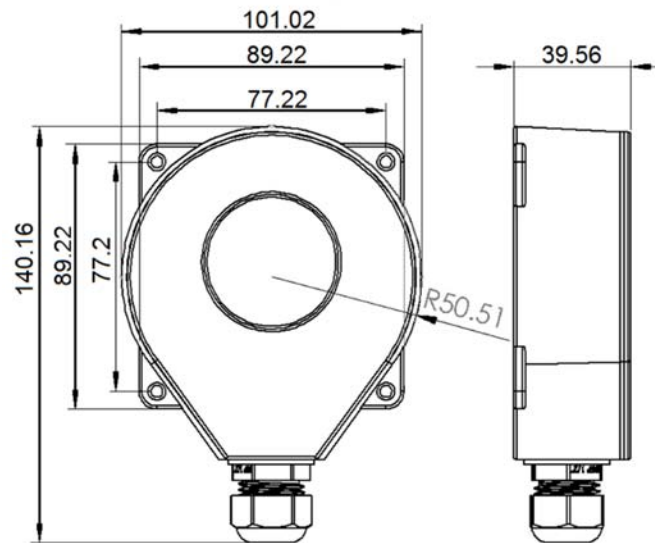

Figure 1 – Detector Dimensions
The D390 detector has (4) 6mm holes in the rear mounting flange (Figure 1) that can be used to mount the detector directly on a flat surface. The detector can also be mounted using an optional Polypropylene swivel mounting bracket (Figure 2) that allows the detector adjustment in vertical axis.